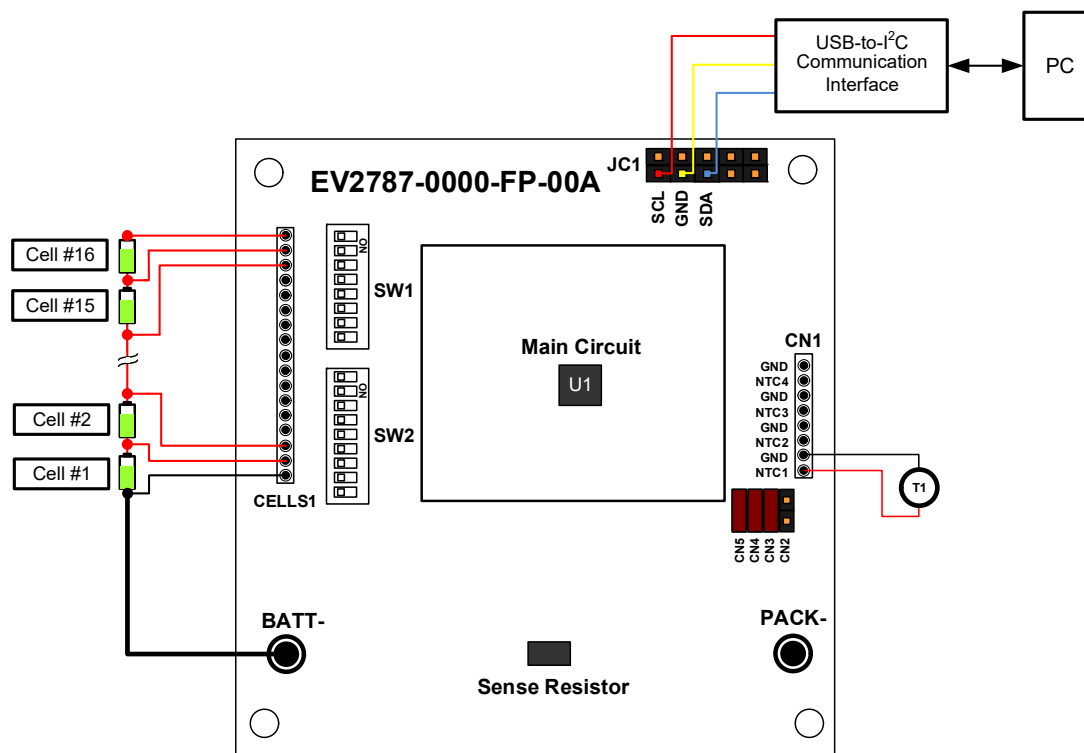
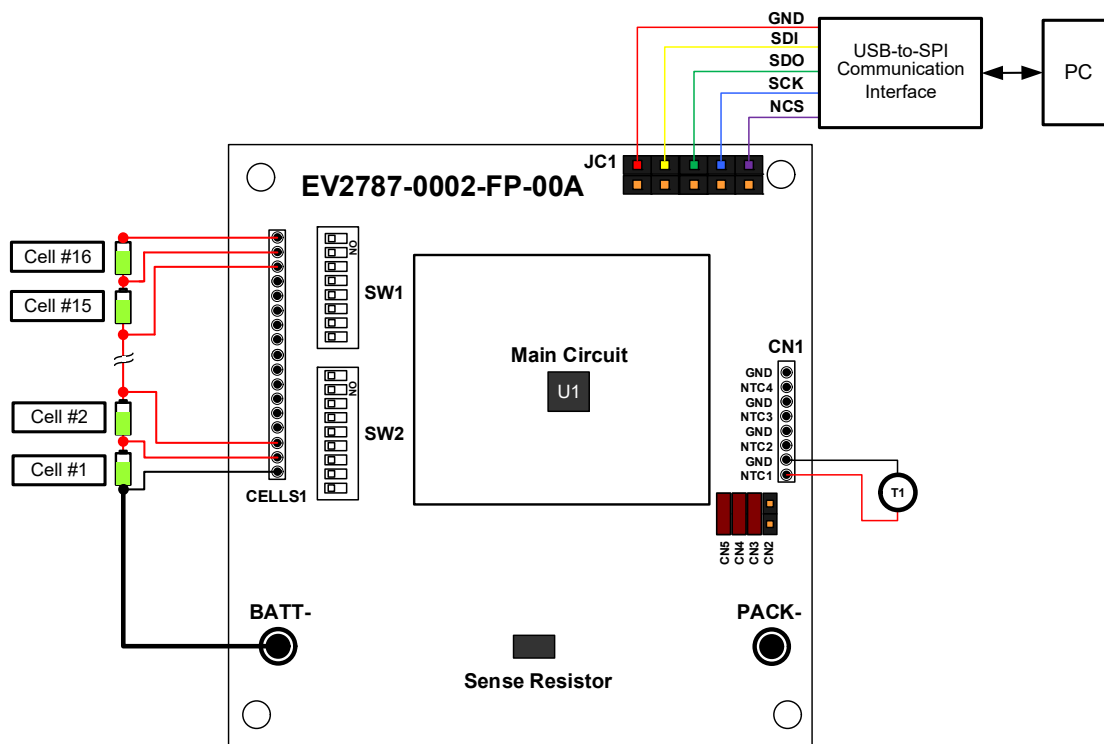

Figure 9: EV2787-0000-FP-00A Wire Connection
Figure 10: EV2787-0002-FP-00A Wire Connection
7. If using the EV2787-0000-FP-00A, connect SDA, SCL, and GND to the USB-to-I²C communication interface (see Figure 9). If using the EV2787-0002-FP-00A, connect NCS, SCK, SDO, SDI, and GND to the USB-to-SPI communication interface (see Figure 10 on page 10).